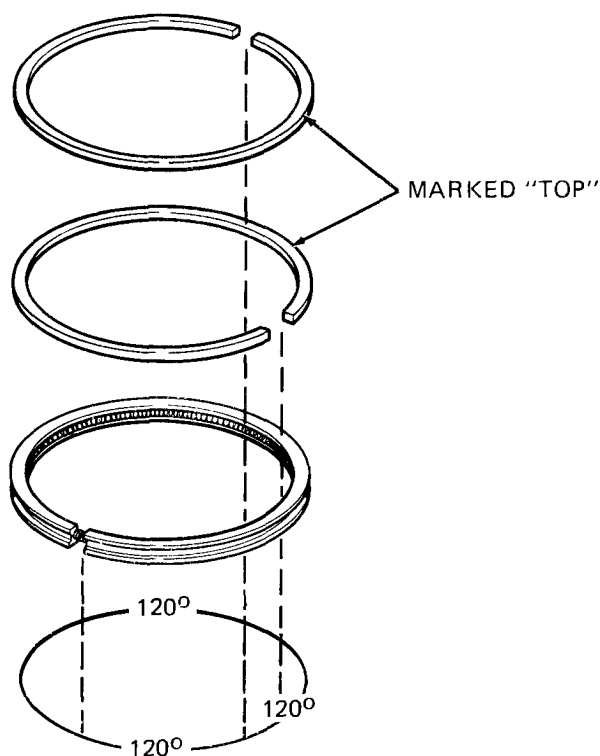

Figure 7-28. Piston Ring Positioning.
- (1) If removed, apply sealing compound (Table 2-2, item 5) to and install cylinder studs (10). End of studs should be 5.55 to 5.63 in. (141 to 143 mm) from crankcase face.
- (2) Position ring end gaps so they are approximately 120 degrees apart. Refer to Figure 7-28.